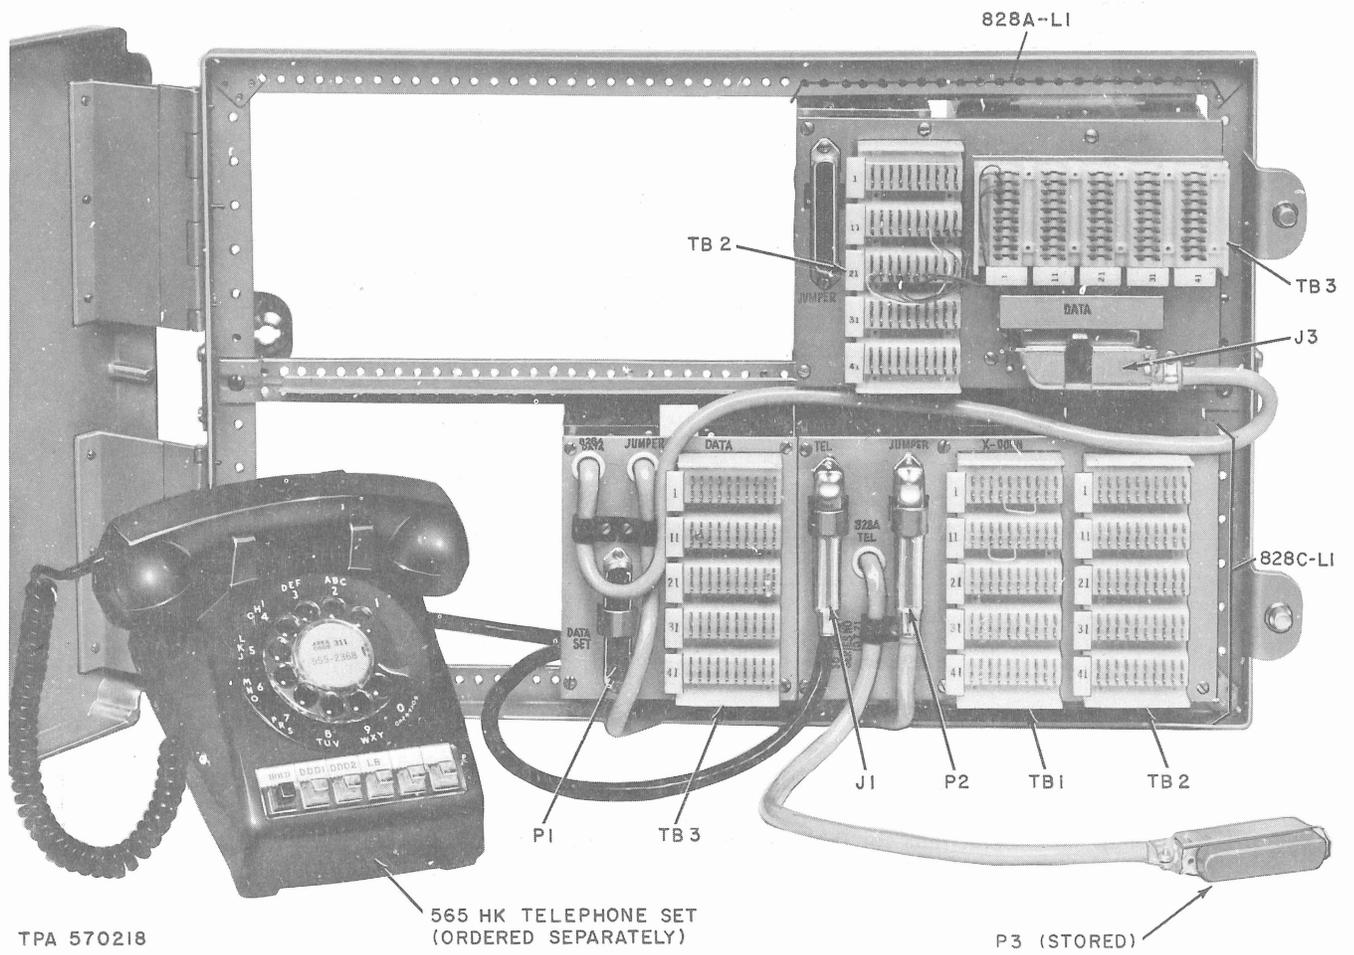

Fig. 3—Rear View of Data-Only Station Arrangement With DDD Backup
3.03 A rear view of the data-only station arrangement and installation with DDD backup and the 565HK telephone set is shown in Fig. 3. The 565HK telephone set must be ordered separately. Also shown are the associated 66-type terminal blocks, plug, and connectors. Instructions for attaching external wiring to the 66-type terminal blocks are given in Section 461-604-100.